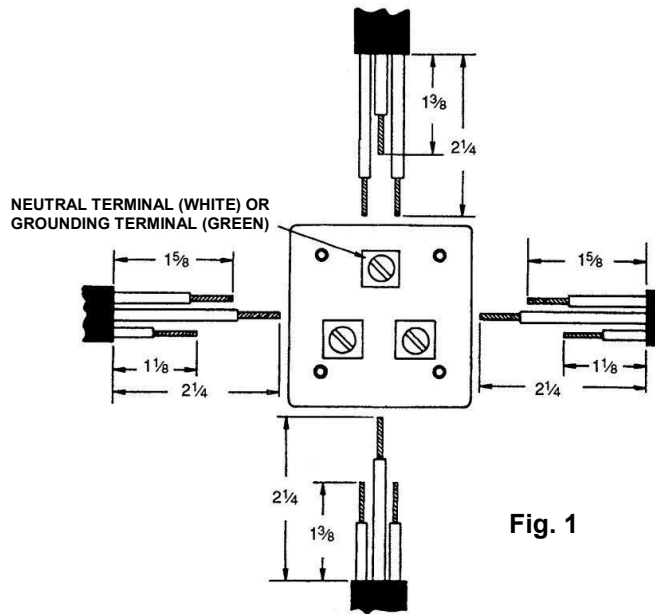

Fig. 1
4. Strip cable jackets as shown in Fig. 1. All conductors to be stripped 9/16 (.562) in length. Note that the blade holder pattern can be positioned in any of four directions by rotating contact assembly in the housing. This will determine the strip length of each color wire. See Fig. 1.